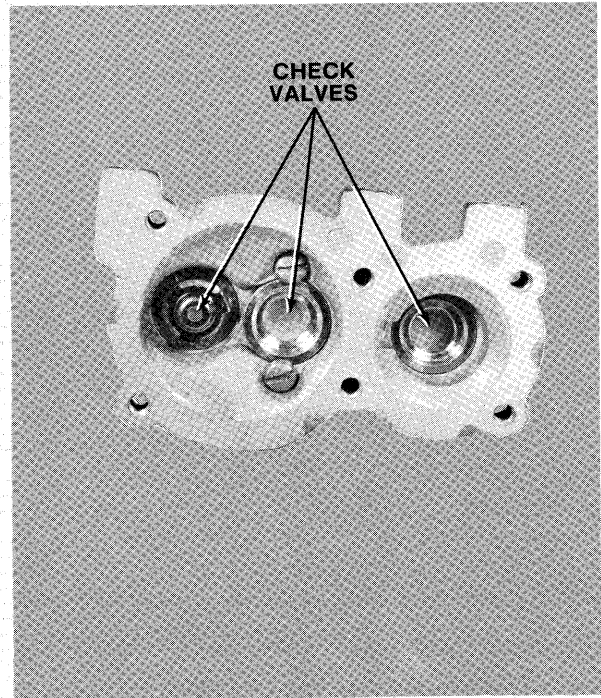

Figure 7—Position of Valves in Pump Body
- B. Press two (2) outside valves in counter-bores of pump body. See figure 7 for position of each valve.
- C. Install middle valve in middle counter-bore of pump body and secure with two (2) screws. See figure 7 for position of valve.